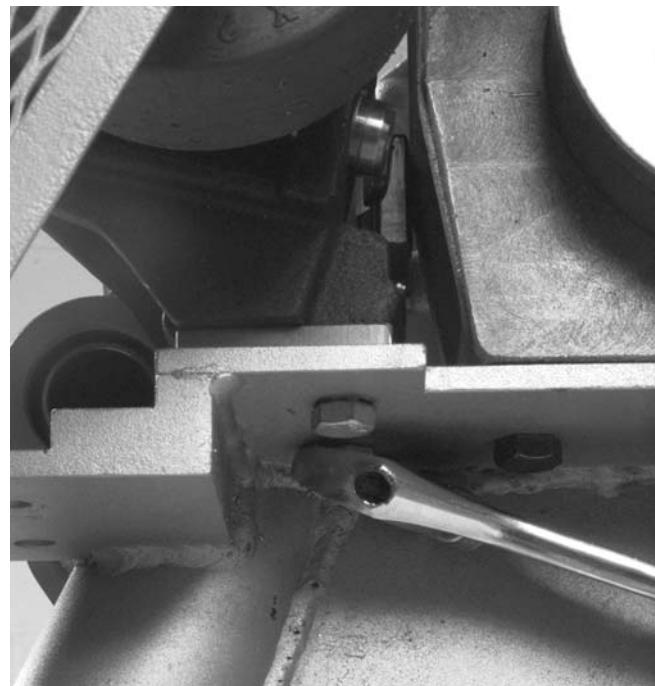

Figure 11 – Removing Bolts Holding Stabilizer
1. Remove the two $\frac{3}{8}$ " bolt that hold the stabilizer in place ($\frac{9}{16}$ wrench or socket) (Figure 11).